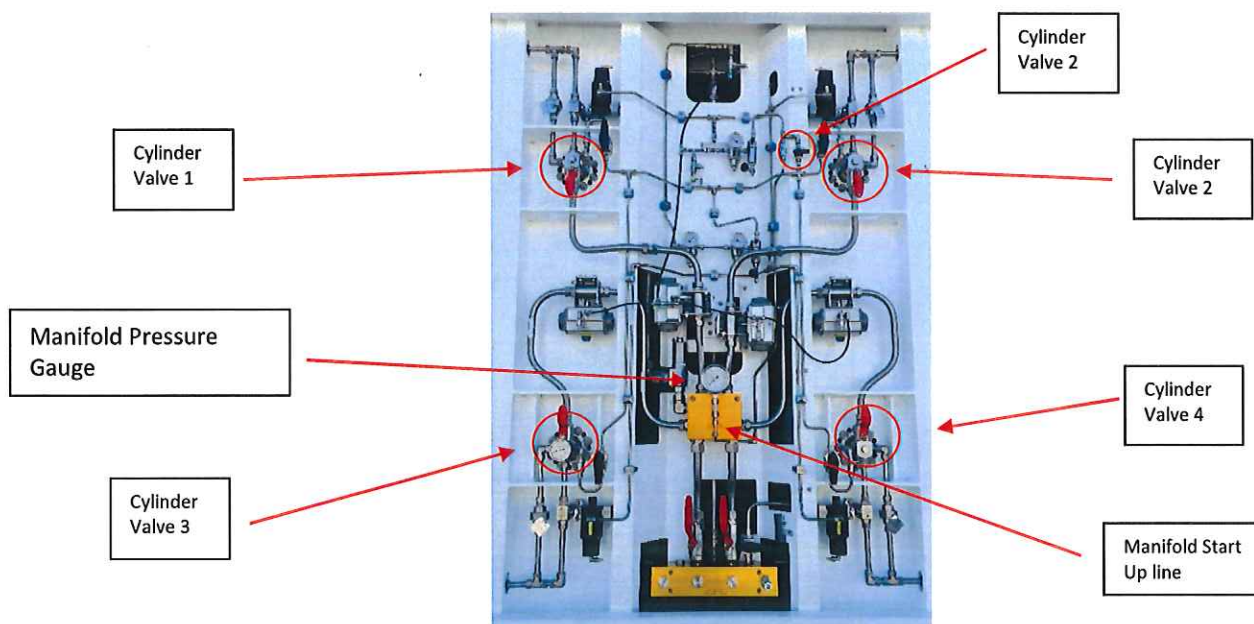

Figure 18: Cylinder Valves in "Open" Position
12. Open the cylinder valves shown in Figure 18. This will begin filling the cylinder(s).